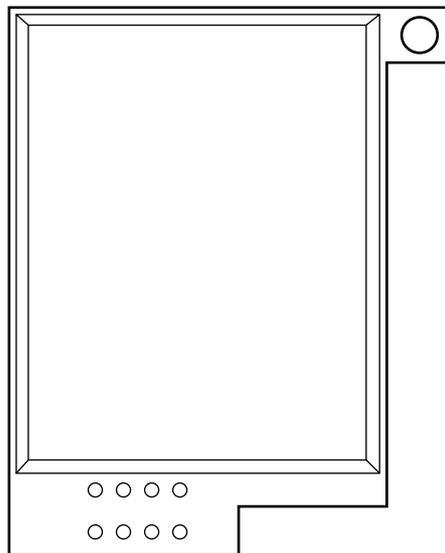

Figure 13. Securing lug on 934 module
3. Secure the module in position with a screw through the lug in the top-right corner (Figure 13).